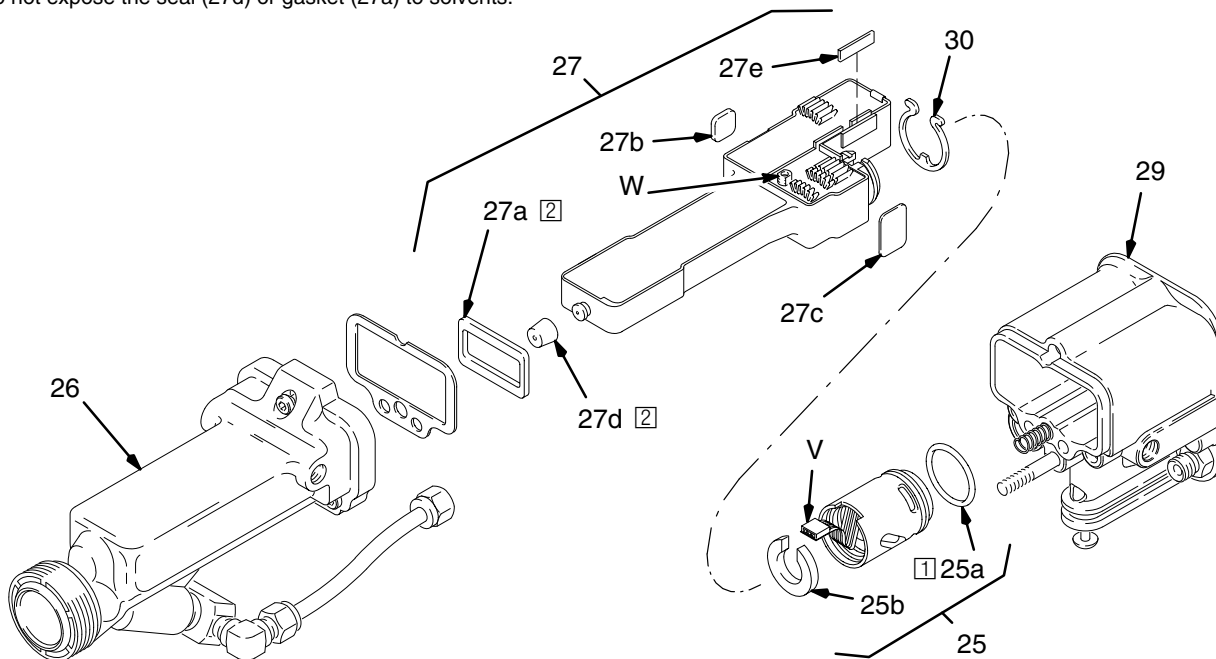

Fig. 31
3. Grasp the power supply (27) with your hand. With a gentle side-to-side motion, being careful not to damage the power supply, pull the power supply free from the gun body (29), then pull it straight out. See Fig. 31.
6. Lubricate the o-ring (25a) and install the power supply (27) in the gun body (29).
3. Squeeze the two ends of the retaining ring (30) together and carefully pull the alternator (25) away from the power supply (27) until the wire connector (V) disengages. See Fig. 31.
4. Use an ohmmeter to test the turbine alternator coil. Measure the resistance between the two outer terminals of the 3-wire connector (V). Resistance should be 3 to 5 ohms. If the reading varies from this value, replace the alternator.
5. Connect the 3-wire connector to the 3 prongs in the power supply. Push the alternator (25) onto the power supply (27) until the retaining ring (30) engages with the alternator.